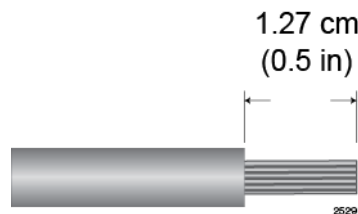

Figure 101. Stripping the Stranded Grounding Wire
1. Prepare an adequate length of stranded 10 AWG grounding wire by stripping it as shown in Figure 101.